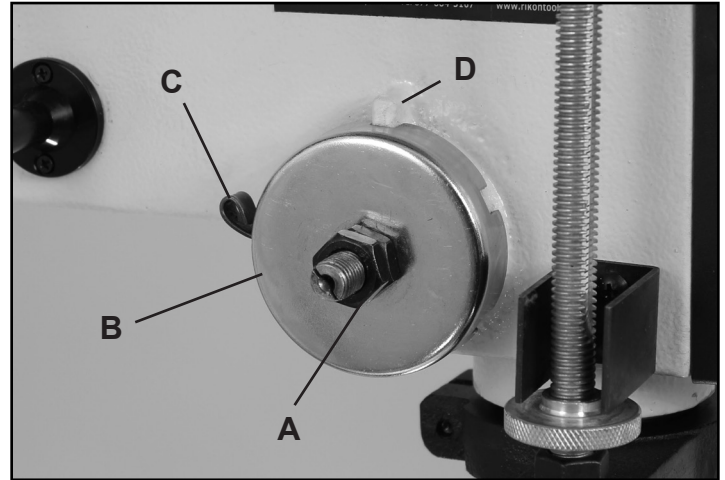

FIG. 22
The Chuck will automatically return upward to its original starting position when the operating handle is released. The Return Spring Mechanism, FIG. 22, has been preset at the factory and should not require any adjustments. However, should the spring tension decline and need adjustment, follow these steps;
2. Loosen the Spring Cover Nuts (FIG. 22, A, #45 on Parts Diagram B), but **DO NOT REMOVE** the nuts from the threaded pin.
3. Carefully pull out the Spring Cover (#46B, Fig. 22, B) slightly, and keep a firm grasp on it - **DO NOT LET THE COVER SPIN** as it keeps the spring from unwinding. Also, **DO NOT** let the spring end (C) disengage from its notch in the spring cover!
4. Pull out the cover just enough so that the notch in the cover clears the nub on the head casting (D).